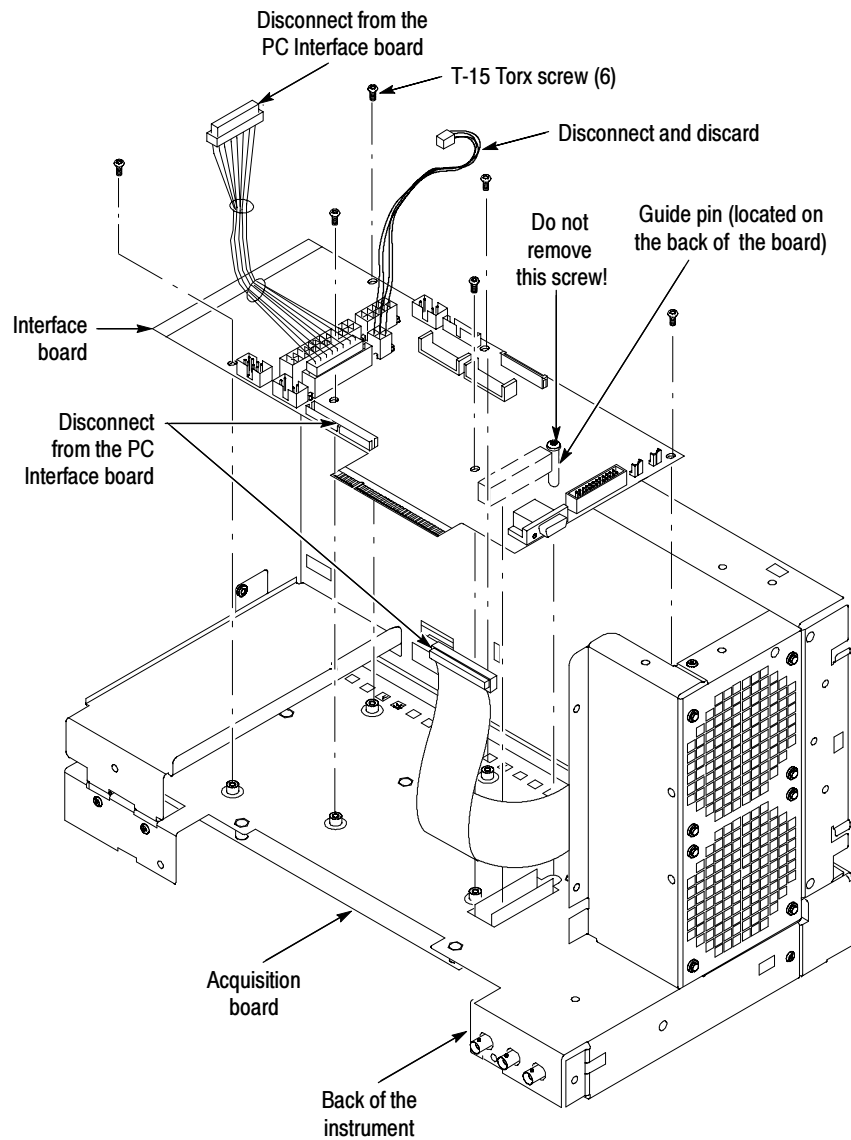

Figure 12: PC Interface board removal
2. *Remove the PC Interface board:* See Figure 12, on page 23.
CAUTION. *Do not remove the screw next to J1800 (See Figure 12 on page 23). The screw secures an indexing pin used to align the J1800 connectors together.*
- g. Grasp the PC Interface board near J1800 (see Figure 12) and carefully pull the board up to disconnect J1800. Once you have cleared the connector, remove the board from the chassis.
5. Reconnect all other cables to the PC Interface board (see Figure 1 on page 9 and Figure 12 on page 23 as necessary to reinstall all the cables to the PC Interface board).